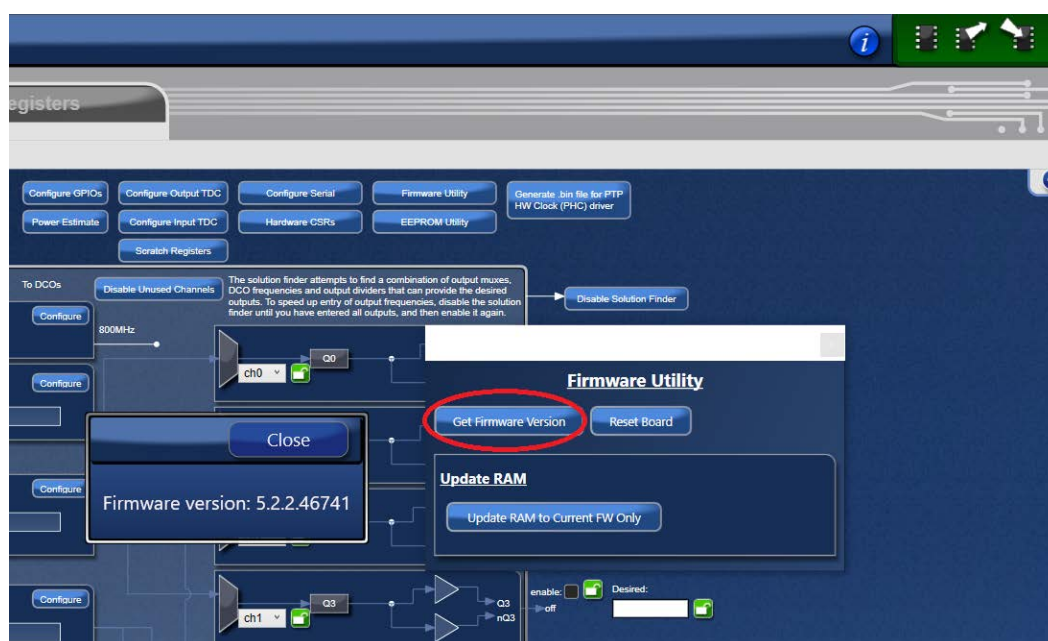

Figure 15. Read Firmware Version of ClockMatrix Chip
- Read back the Firmware Version to ensure it is correct (see Figure 15).